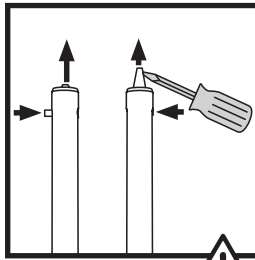

Fig. 10
- Gently ease the locating lug deployment plunger forward by using a flat bladed screwdriver (not supplied) as a lever. **(Fig. 10)**